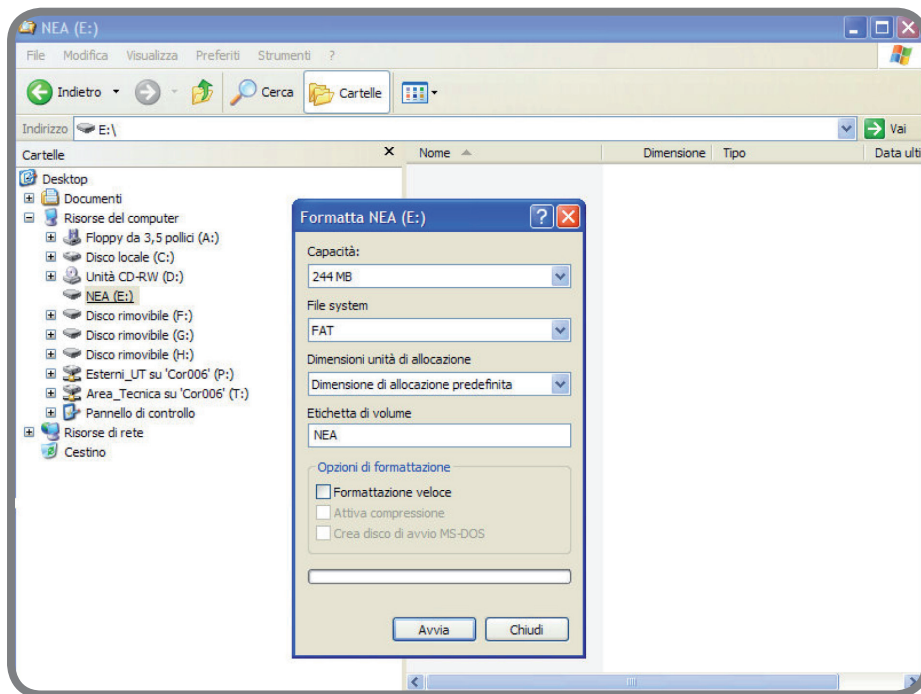

Fig. 5e
- a window opens with a number of menus; select “formatta” (format), then select **FAT** and **NON FAT32** as the “File system” formatting type (see Fig. 5e);